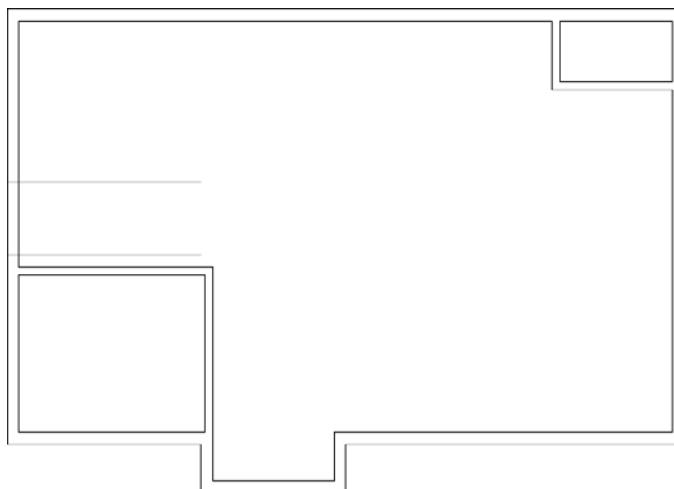

FIGURE 4.32 The offset line for the 3'-0" (915 mm) opening
4. End and restart the OFFSET command by pressing the spacebar or ↵ twice; then enter 3' ↵ (915 ↵) to set a new offset distance, and offset the new line up (see Figure 4.32).